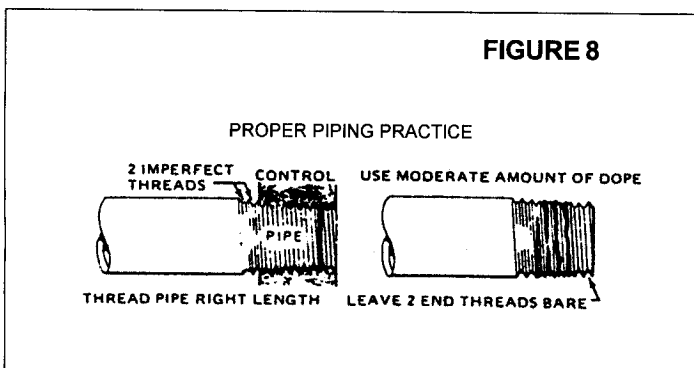

FIGURE 9
1. The gas supply line must be of an adequate size to handle the BTU/hr requirements and length of the run for the unit being installed. Determine the minimum pipe size from Figure 9 basing the length of the run from the gas meter or source to the unit.